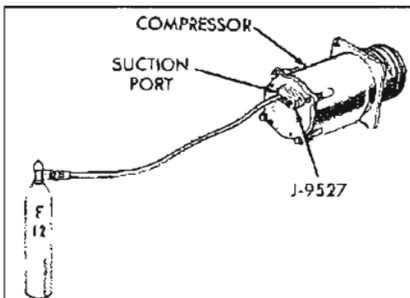

Figure 11-58—Leak Testing Shaft Seal and Seal Seat O-Ring
13. Attach Compressor Leak Test Fixture (J-9527) on rear head of compressor and connect gauge charging lines as shown in Figure 11-58. Pressurize suction side of compressor with refrigerant 12 (cylinder at room temperature). Temporarily install shaft nut and rotate compressor shaft several times. Leak test seal and correct any leaks as necessary. Remove and discard shaft nut.